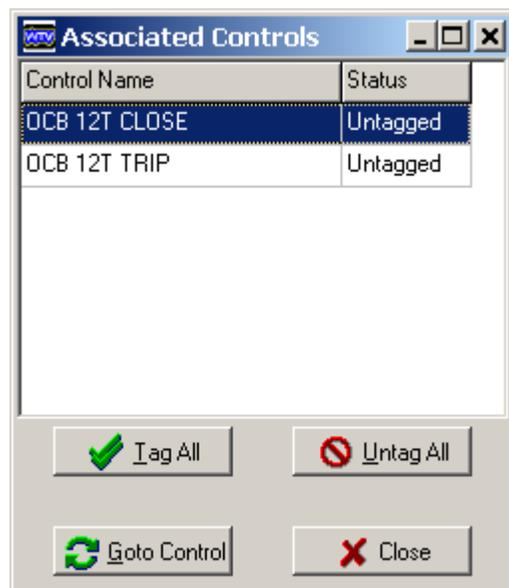

Figure 27. Associated Controls Window
2. Select a digital, analog, or n-state point update field on a screen. Click the control button. The Associated Controls window appears (Figure 27). There may be one or more controls listed. Select a control and click the Goto Control button.